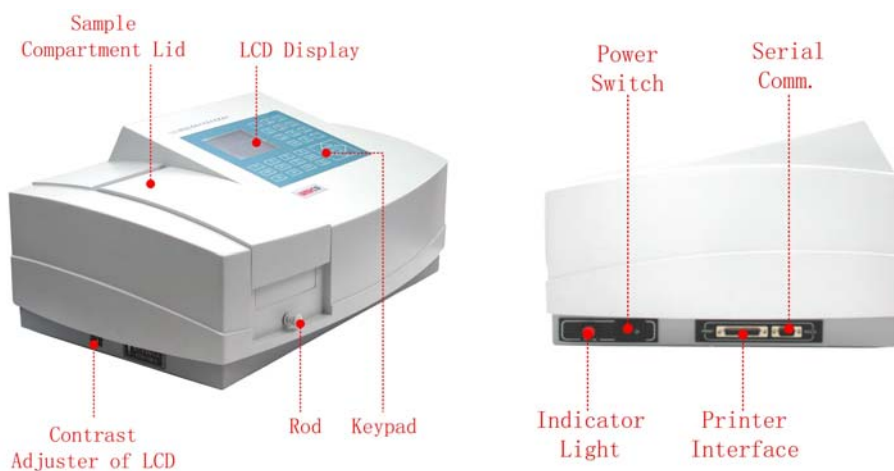

Fig 1
The UNICO SQ-4802 model spectrophotometer (Fig 1) is a double beam, general purpose instrument designed to meet the needs of the Conventional Laboratory, The UNICO SQ-4802 model spectrophotometer is ideal for various applications, such as: Chemistry, Biochemistry, Biotechnology, Petrochemistry, Environmental Protection, Food and Beverage Labs, Water and Waste Water Labs and other fields of quality control and research.
Turn on spectrophotometer by pressing the Power Switch (IO) (see Fig1). The instrument starts to initiate and the steps are as below: